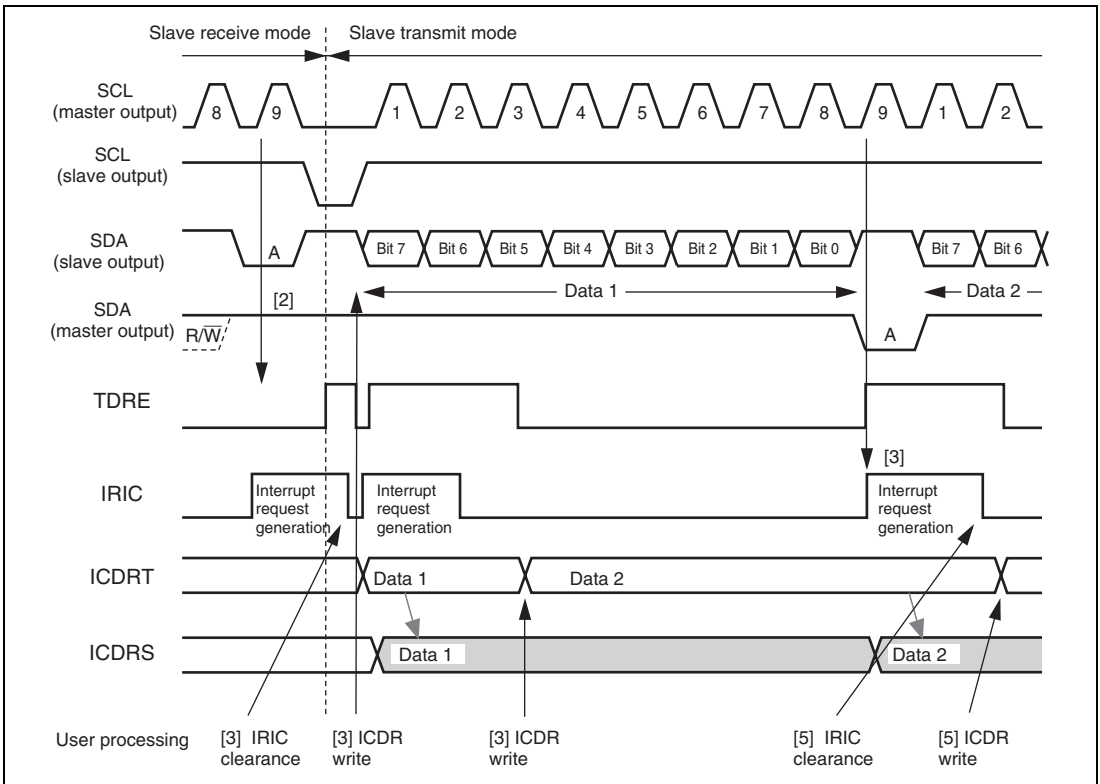

Figure 15.9 Example of Slave Transmit Mode Operation Timing (MLS = 0)
3. After clearing the IRIC flag to 0, write data to ICDR. The TDRE internal flag is cleared to 0. The written data is transferred to ICDRS, and the TDRE internal flag and the IRIC and IRTR flags are set to 1 again. After clearing the IRIC flag to 0, write the next data to ICDR. The slave device sequentially sends the data written into ICDR in accordance with the clock output by the master device at the timing shown in figure 15.9.